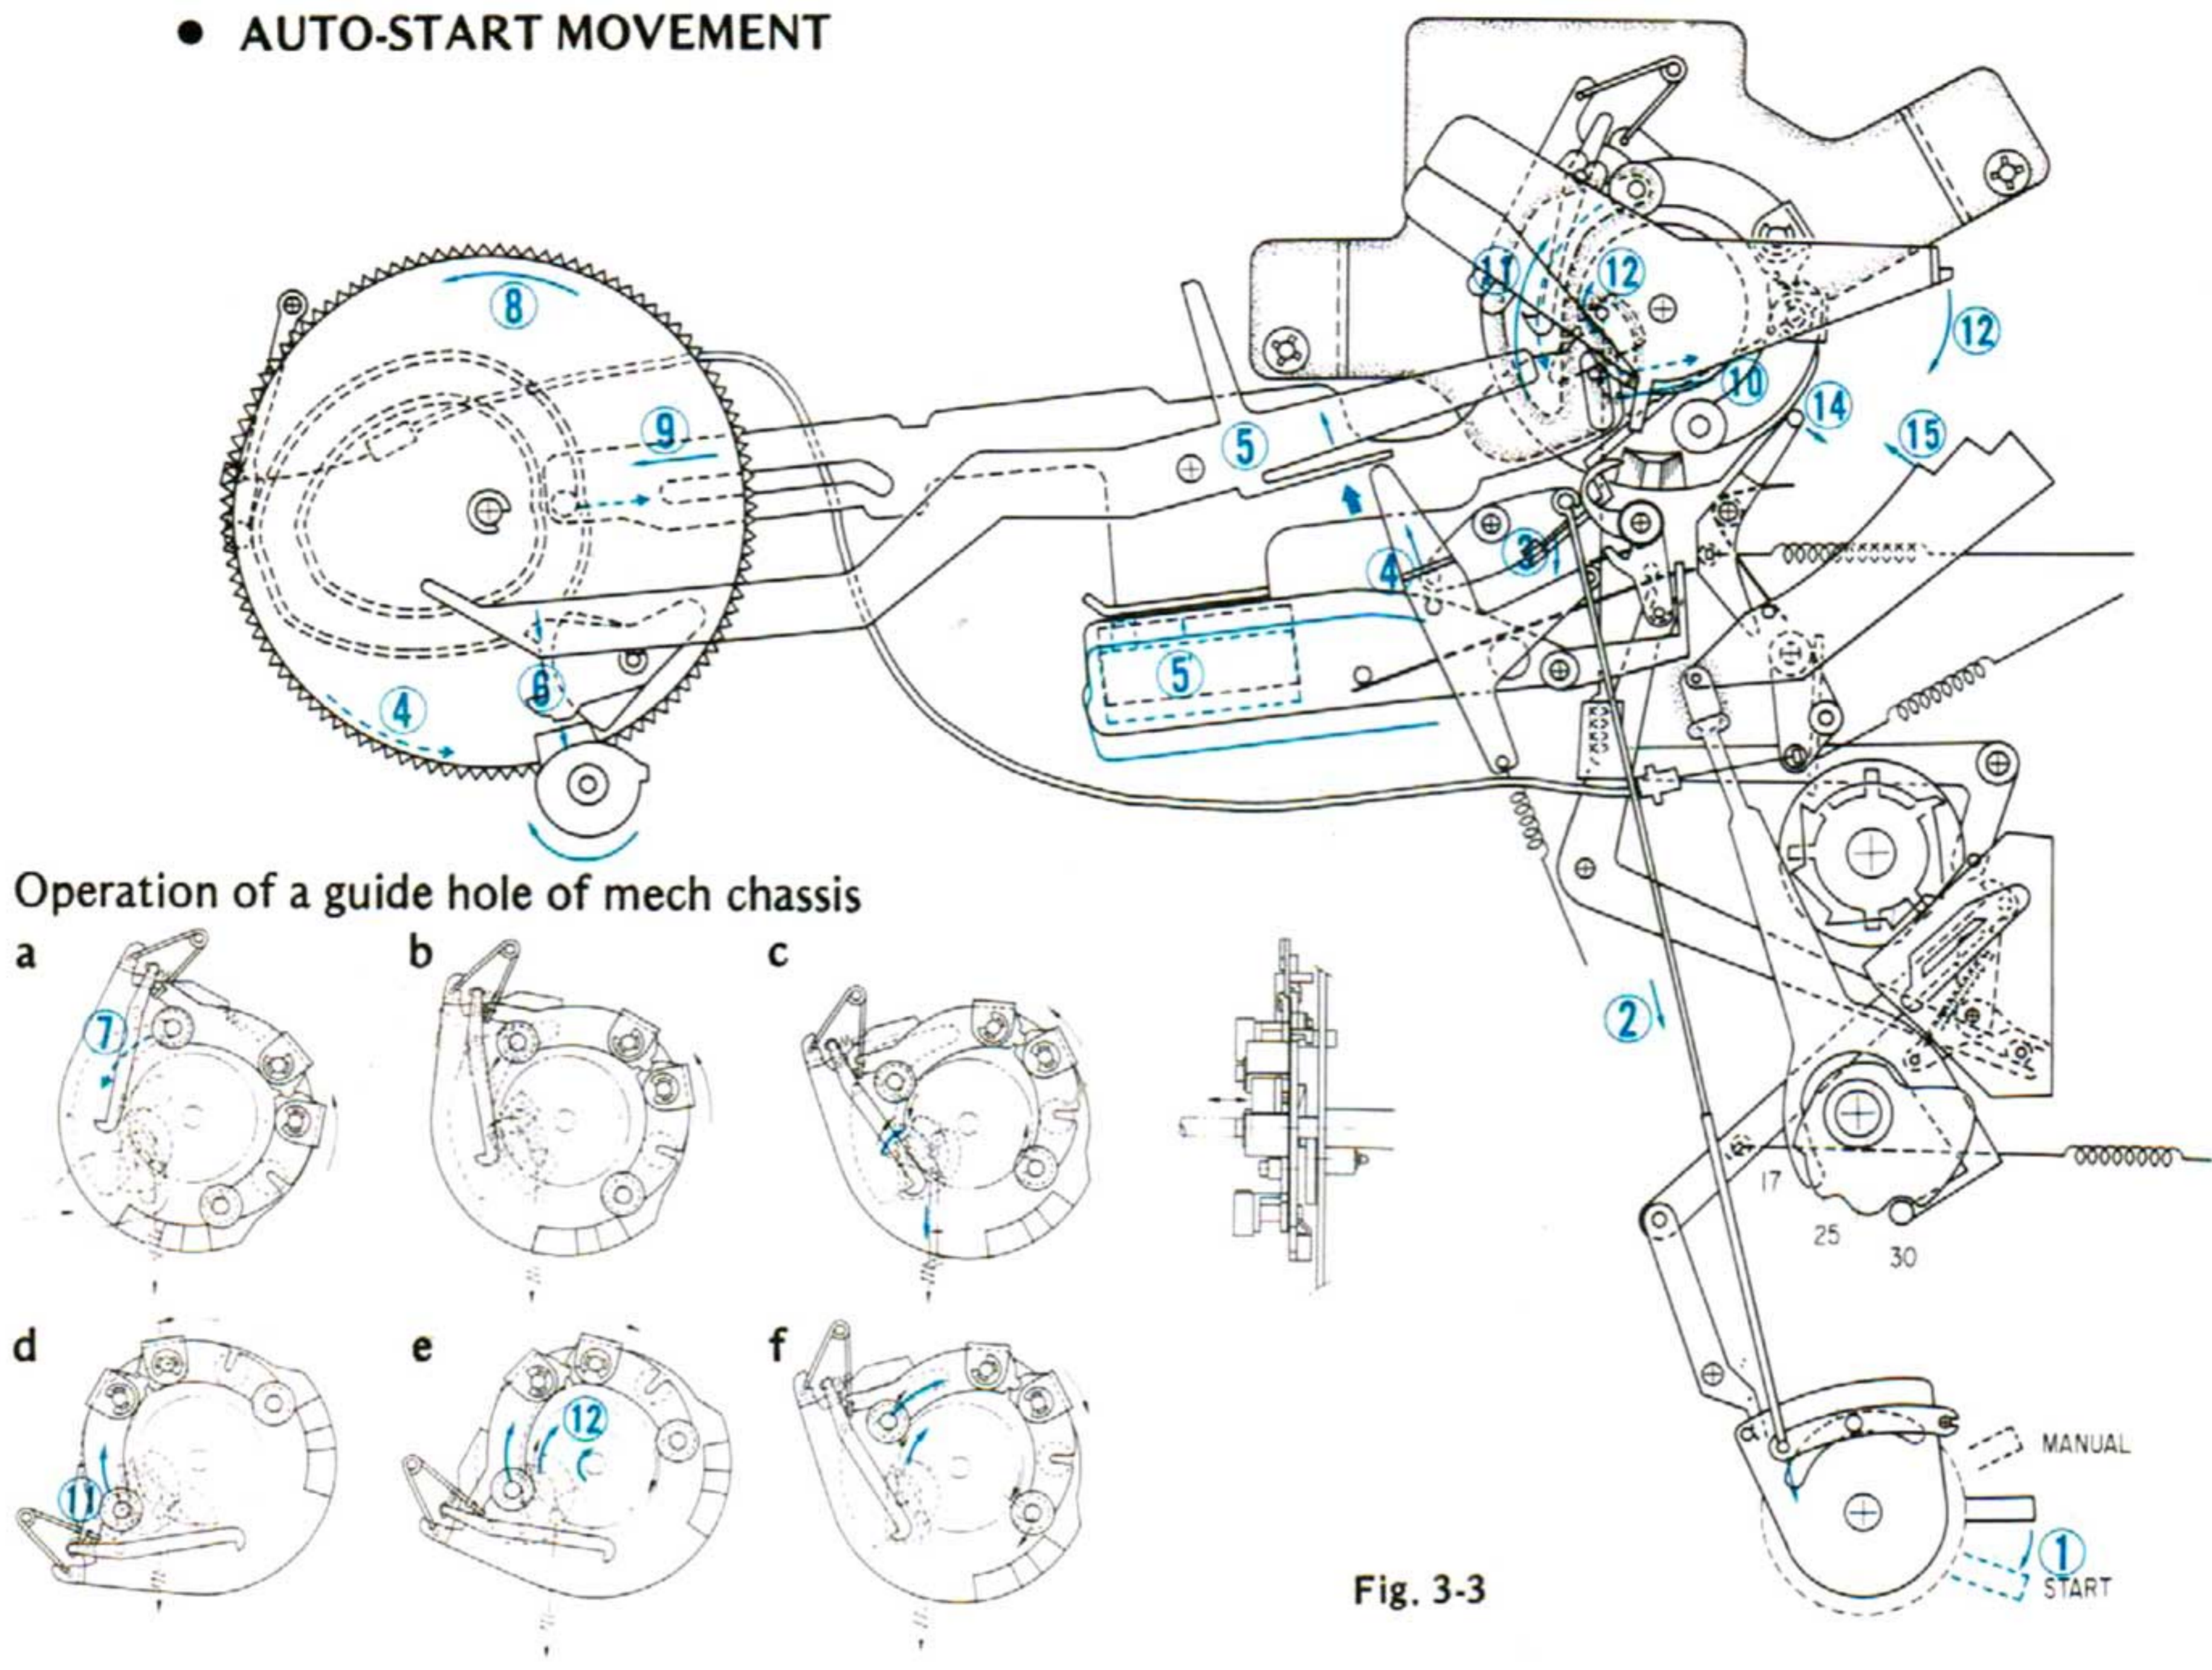

Fig. 3-3
2) AUTO-START MOVEMENT (Fig. 3-3)